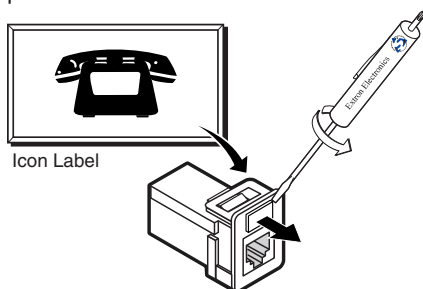

Figure 23. Changing the Connector Icon
NOTE: Figure 23 shows an HSA 200 model. Removing the front panel from an HSA 222 is an identical procedure.
7. Snap a replacement bezel in place. If necessary, replace the connector icon by prying the old icon off of the connector plug-in with a Tweezer (see figure 23) and snapping a new icon in place.